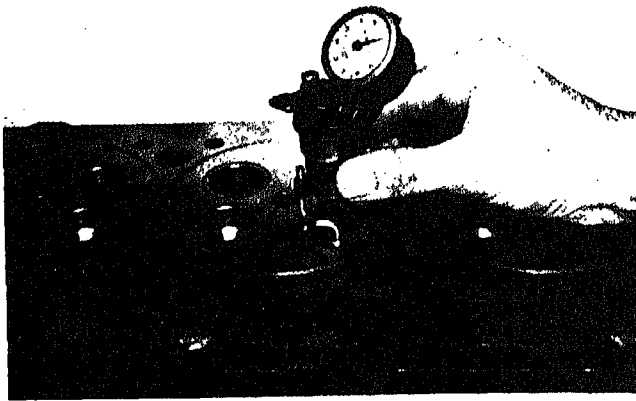

Fig. 2-3-5. Indicating valve seat insert
8. Check valve seat concentricity with valve seat indicator as shown in Fig. 2-3-5.